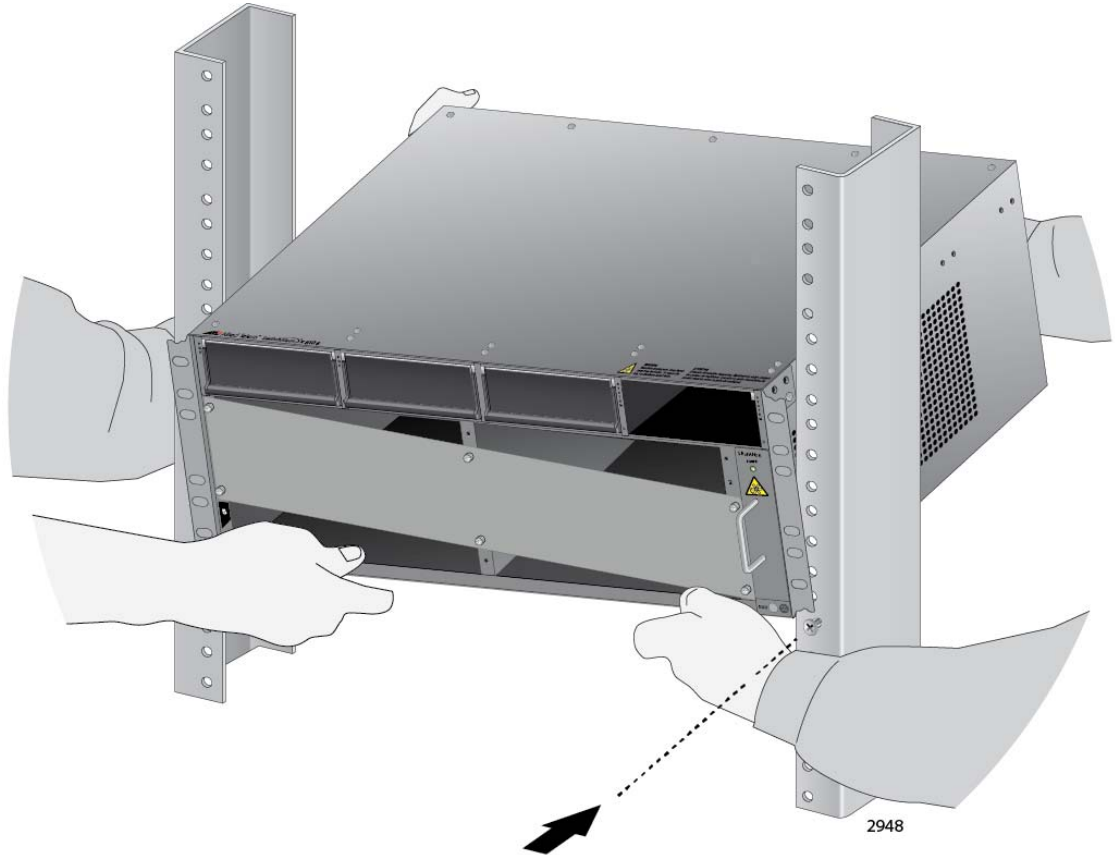

Figure 40. Lifting the AT-SBx8106 Chassis into the Equipment Rack
2. Lift the AT-SBx8106 Chassis into the equipment rack and set the bottom of the equipment rack brackets firmly on the two equipment rack screws you installed in “Preparing the Equipment Rack” on page 95, as shown in Figure 40.